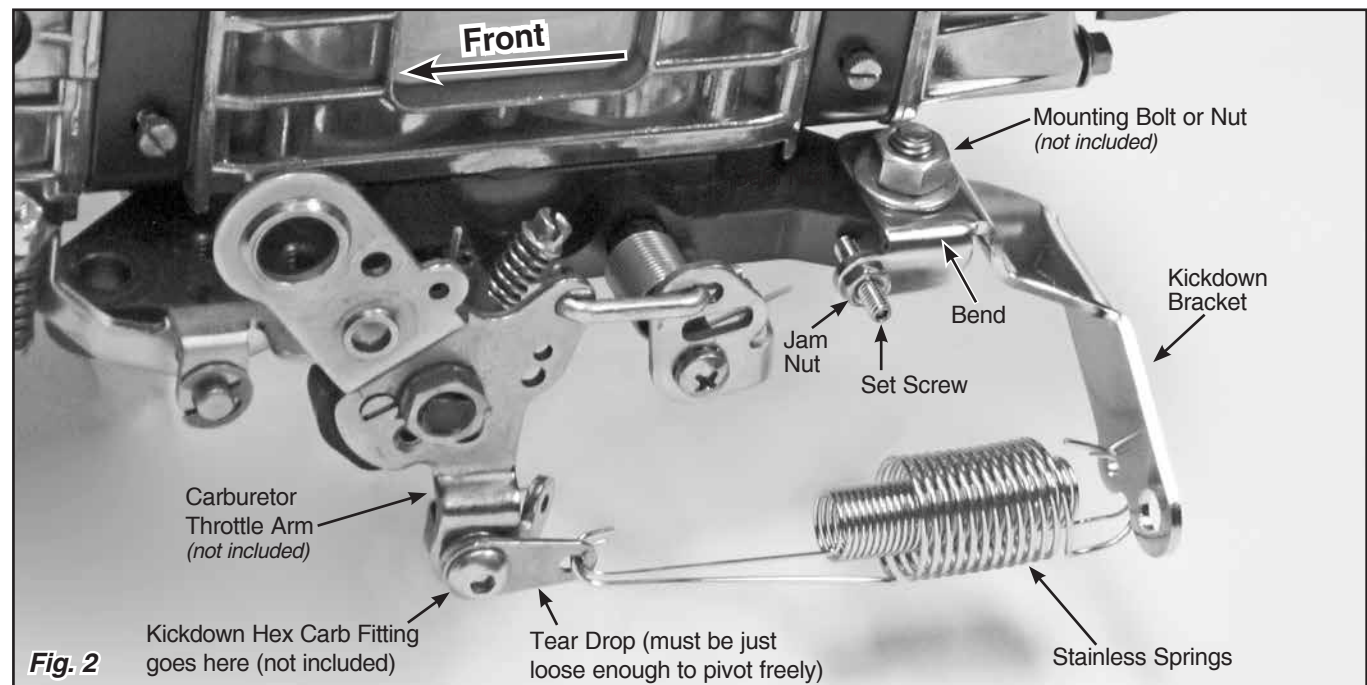

Fig. 2
Step 1: Remove the carburetor base mounting bolt or nut from the left rear corner of the carburetor, and position the Lokar Kickdown Bracket as shown in Fig. 2. Install the carburetor base mounting bolt or nut only finger-tight.
Step 2: Position the Lokar Kickdown Bracket so that the bend that is labeled in Fig. 2 is parallel to the carburetor base front to back.